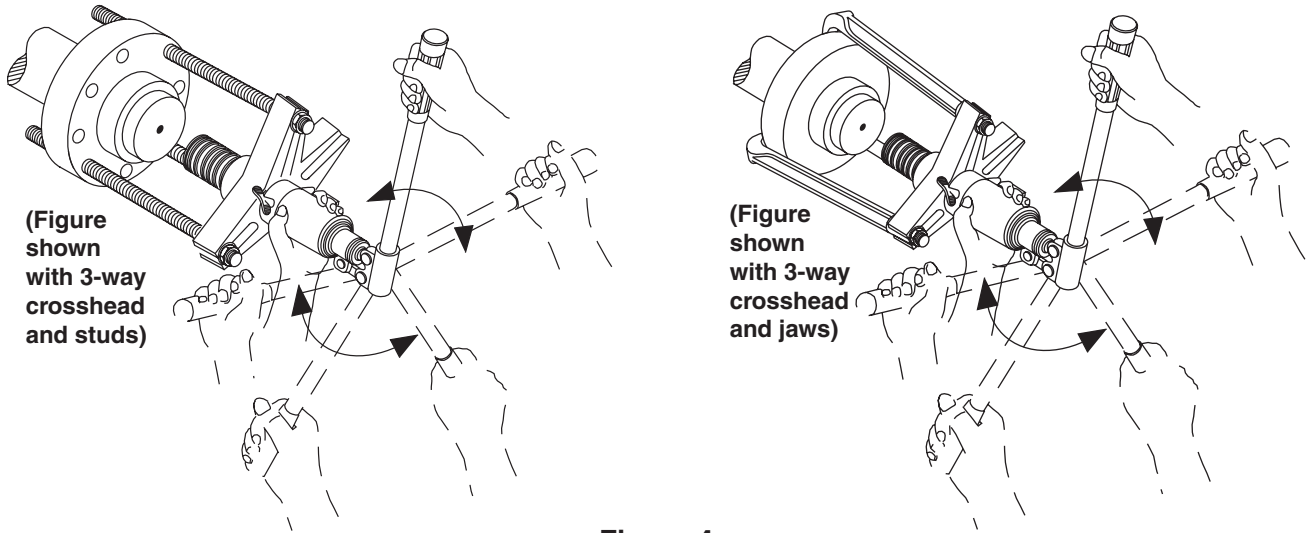

Figure 4
5. The handle assembly rotates a full 360° to allow the best handle location for the job. See Figure 4.